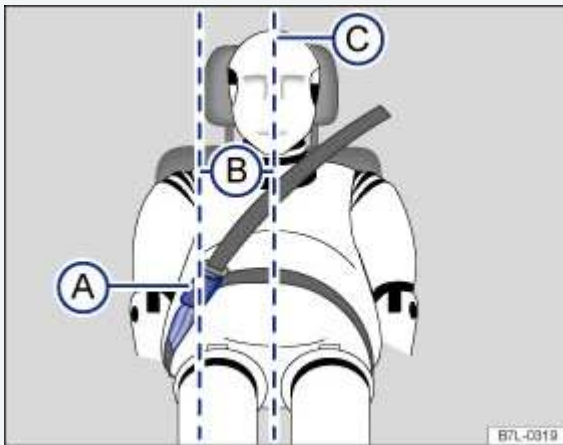

Fig. 68 Positioning of the safety belt extender.
Key to ⇒ *Fig. 68* :
- Never use a safety belt extender if the distance (B) between the front edge of the safety belt extender buckle (A) and the centerline of the person using the safety belt extender ⇒ Fig. 68© is less than 6 inches (15 cm).